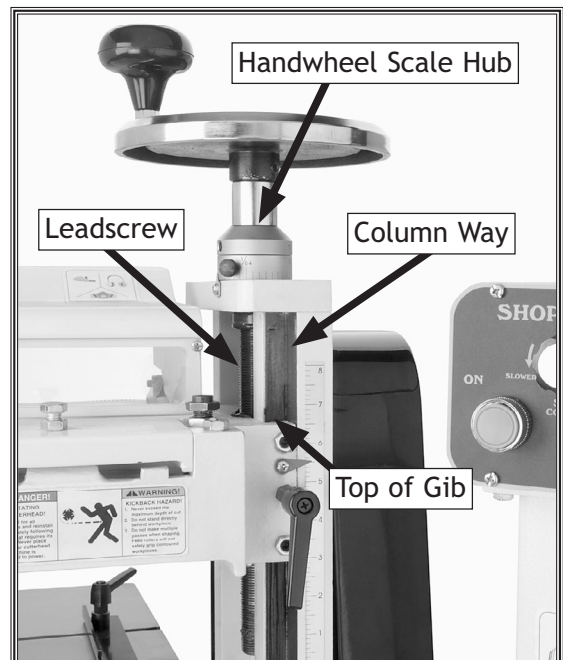

Figure 51. Gib, way, and leadscrew.
5. Clean the column ways and leadscrew with mineral spirits, and brush a coat of light machine oil or motor oil on all cleaned locations (**Figure 51**).